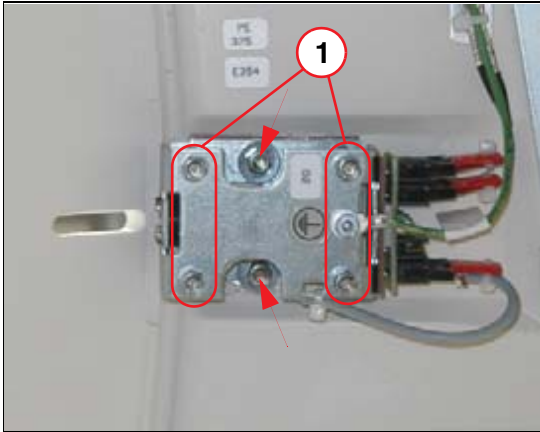

Fig. 88: Adjustment of position
3. Adjust the skew of the markers with the 4 adjusting nuts to make these measurements equal. Use the adjusting nuts in pairs (circle 1)(Fig. 88 / p. 126)